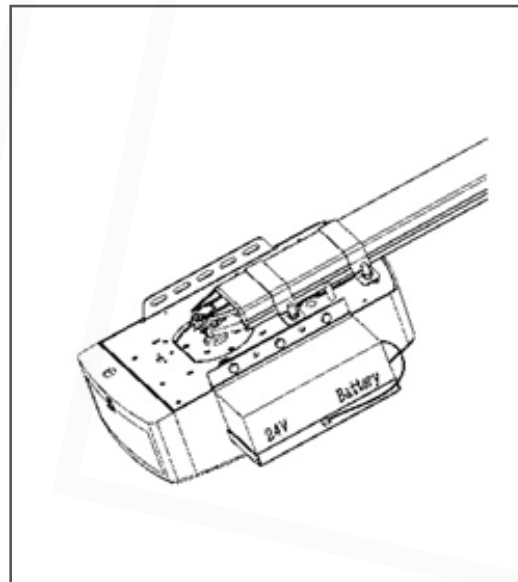

Fig. 14
STEP2 (Fig.14)
Join the battery to opener, find the Fig.14.